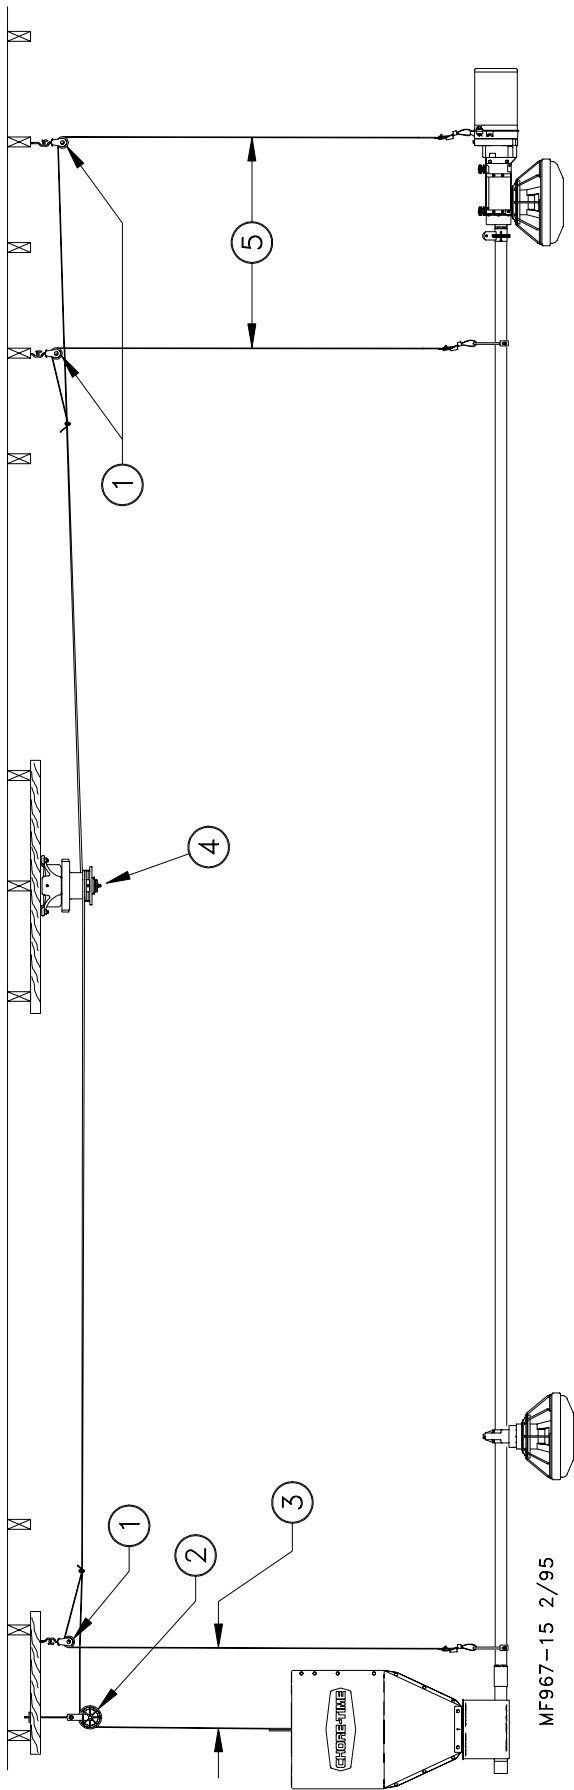
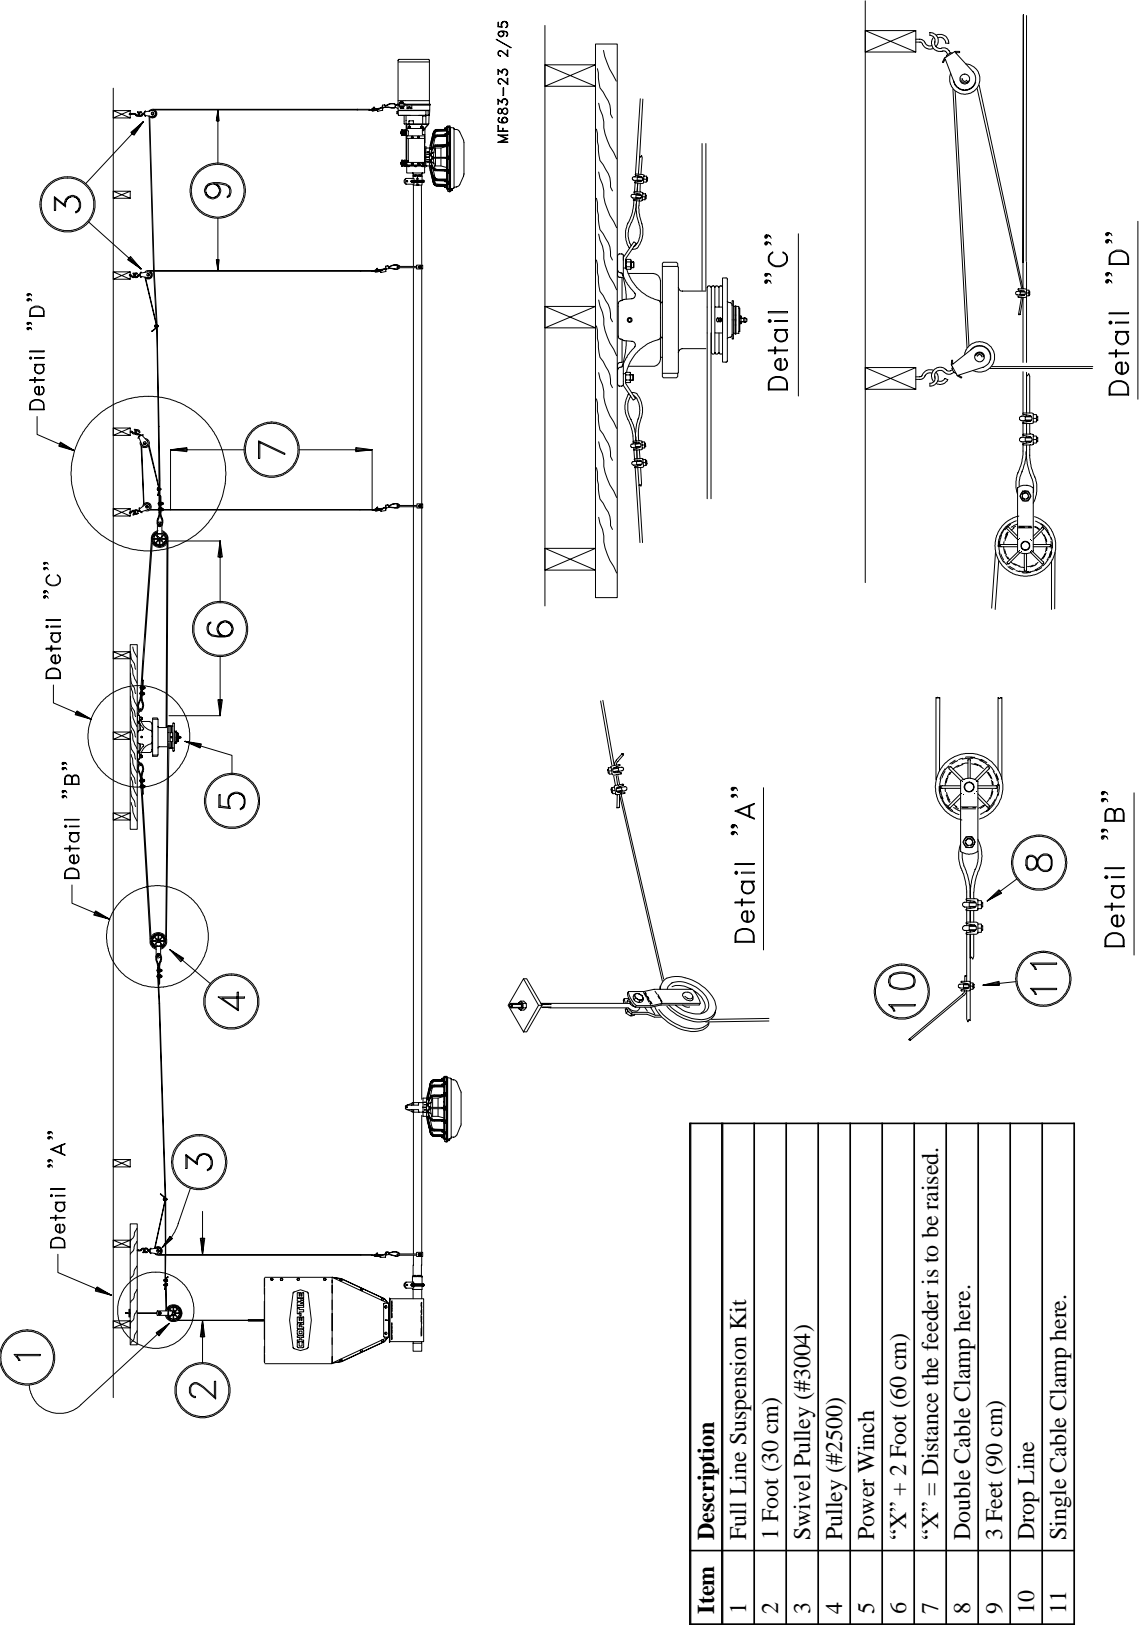

Figure 22. Suspension for systems up to 350' (107 m)
Figure 23. Suspension for systems over 350' (107 m)
The suspension system is the same for the Model C2 Plus & G Plus Feeders. The type of installation required depends on feeder line length. Figure 22, on page 29, shows the suspension system for feeder line lengths to 350' (107 m). Figure 23, on page 30, shows the suspension system for feeder lines over 350' (107 m).
IMPORTANT: Special support is required at each Power Unit and Hopper location. Figures 22 and 23 show the **additional** suspension required at these locations.
3. Allow enough cable length for installation of the Adjustment Leveler. Sufficient cable is included to provide "throwbacks" on drops located beneath and near the winch. Detail "A" in Figure 23 shows a "throwback" cable arrangement.
Suspend the hopper, as shown in Detail A (Figure 22) by routing the cable around the Full Line Suspension Pulley and fastened to the main cable, using (2) cable clamps.